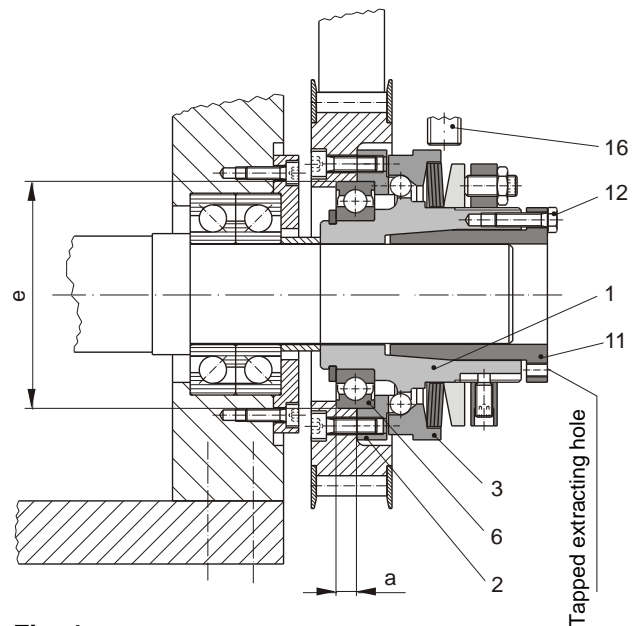

Fig. 4
Please ensure that the output element bearing is designed as a fixed bearing (Fig. 4).
For the different torque ranges (see Adjustment Table (35)) **one** cup spring for Type 49__5__ ____, **two** cup springs for Type 49__6__ ____, **four** cup springs for Type 49__7__ ____, and **five** cup springs for Type 49__8__5__ are installed (Fig. 4).